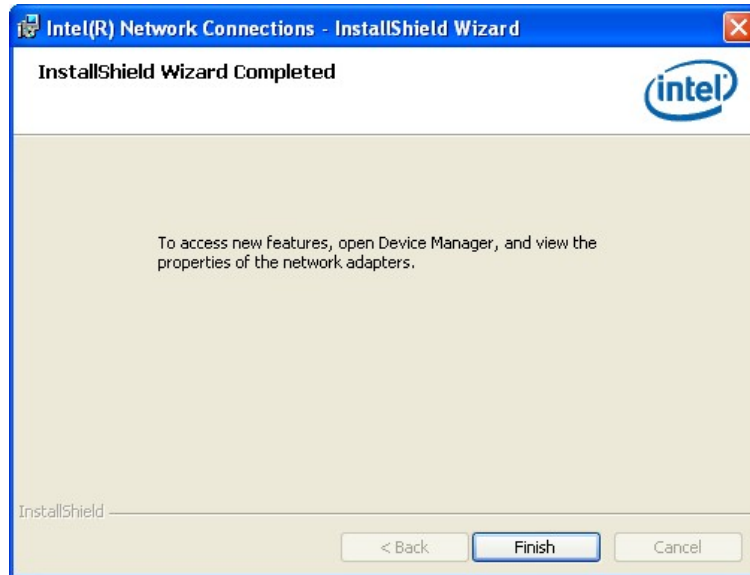

Figure 6-18: LAN Driver Installation Complete
Step 17: When the driver installation is complete, the screen in Figure 6-18 appears.